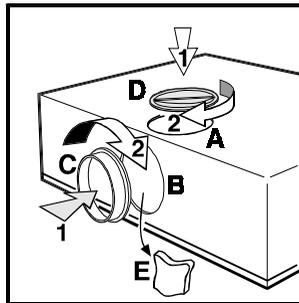

Fig. 2
- **Warning!** If it is decided to use the rear outlet hole **B**, first remove the sponge **E** that closes that hole. **Fig. 2**.